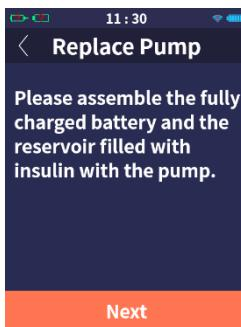

Figure 11.3
(3) Please assemble the fully charged battery and the reservoir filled with insulin with the pump (as shown in Figure 11.3). After the assembly is completed, click "Next".